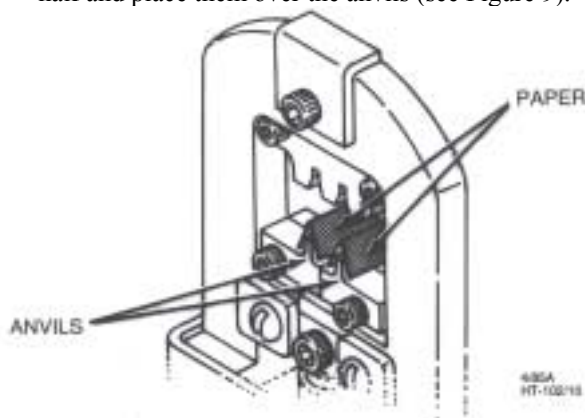

Figure 9
- 3 Cut out two strips of paper. Then fold the strips in half and place them over the anvils (see Figure 9).